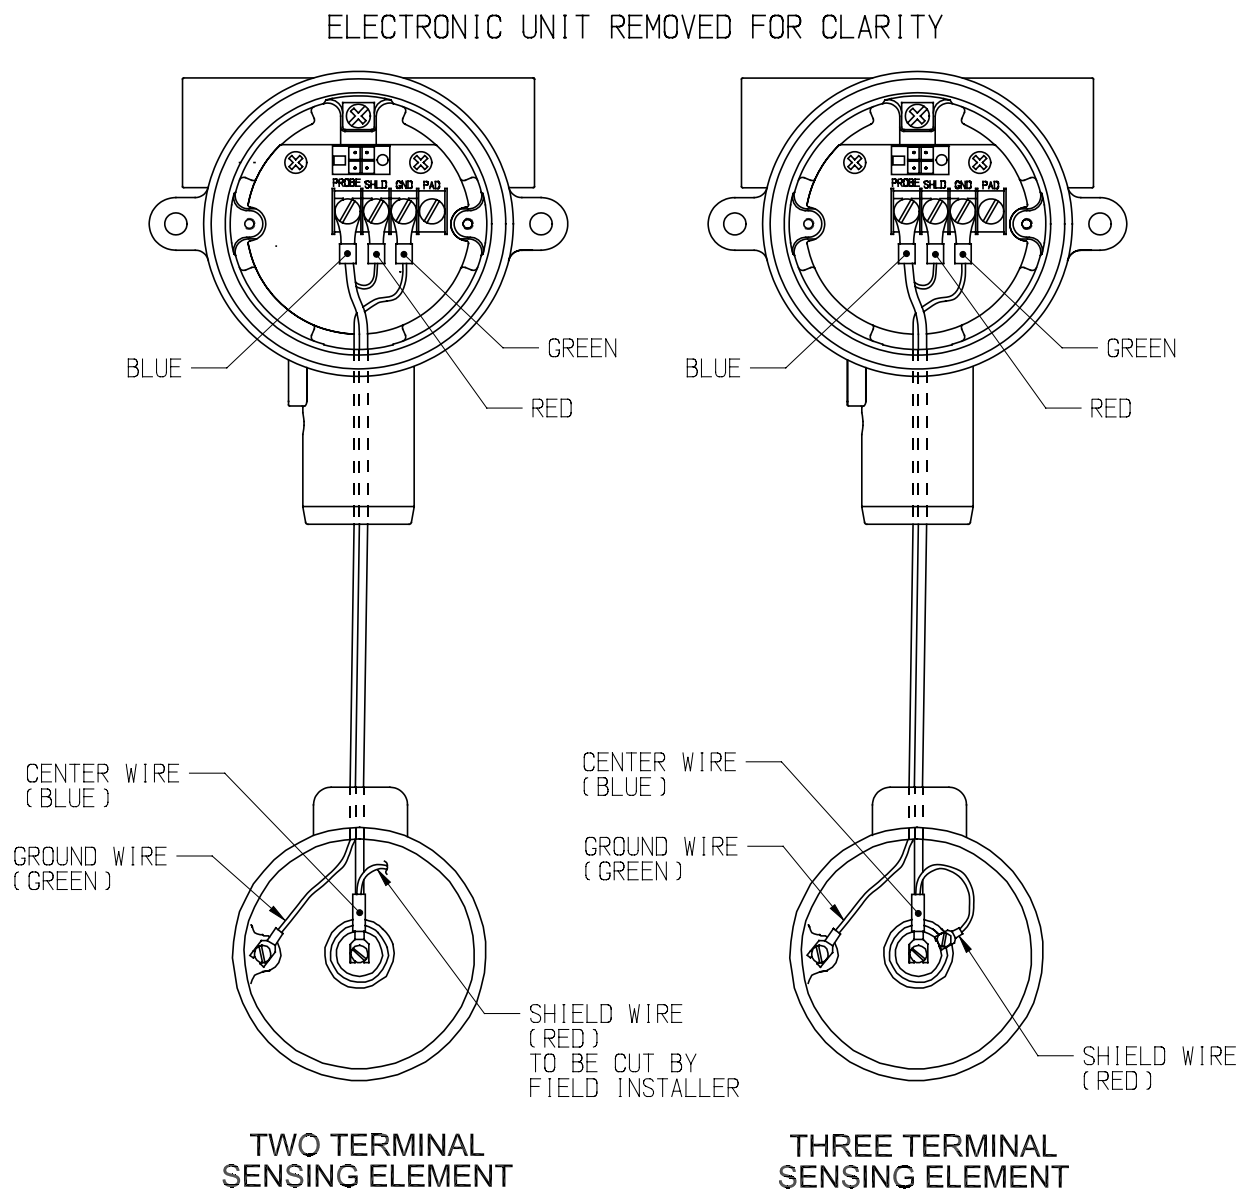

Figure 2-8
See Figure 2-8 for wiring connections of the remote unit. The cable from the sensing element is connected to the terminal strip below the instrument chassis. The cable connections are sensing element (prb) or center wire (cw), ground (gnd), and shield (shd).
The cable connections to the remote sensing element are shown in **Figure 2-8**
- If the sensing element does not have a shield connection, (the most common condition for a 2-terminal sensing element) be sure to clip and /or tape the shield wire at the sensing element end of the cable only. See **Figure 2-8**.
* For sensing elements that do not have shield connections, clip the shield wire as shown in **Figure 2-8**.